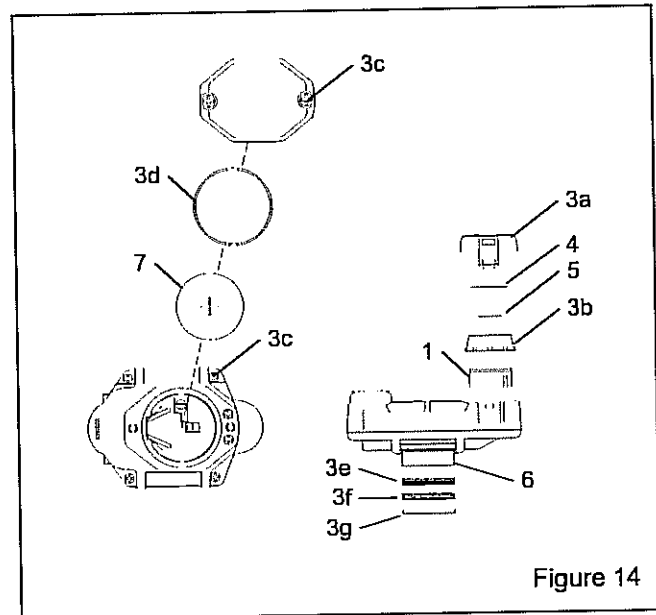

Figure 14
7.	* Mounting strip assembly, used with Apollo 60 and 600 only Included with kit 25577 shown in Figure 14.
7.2 Replacement Parts, Figure 14